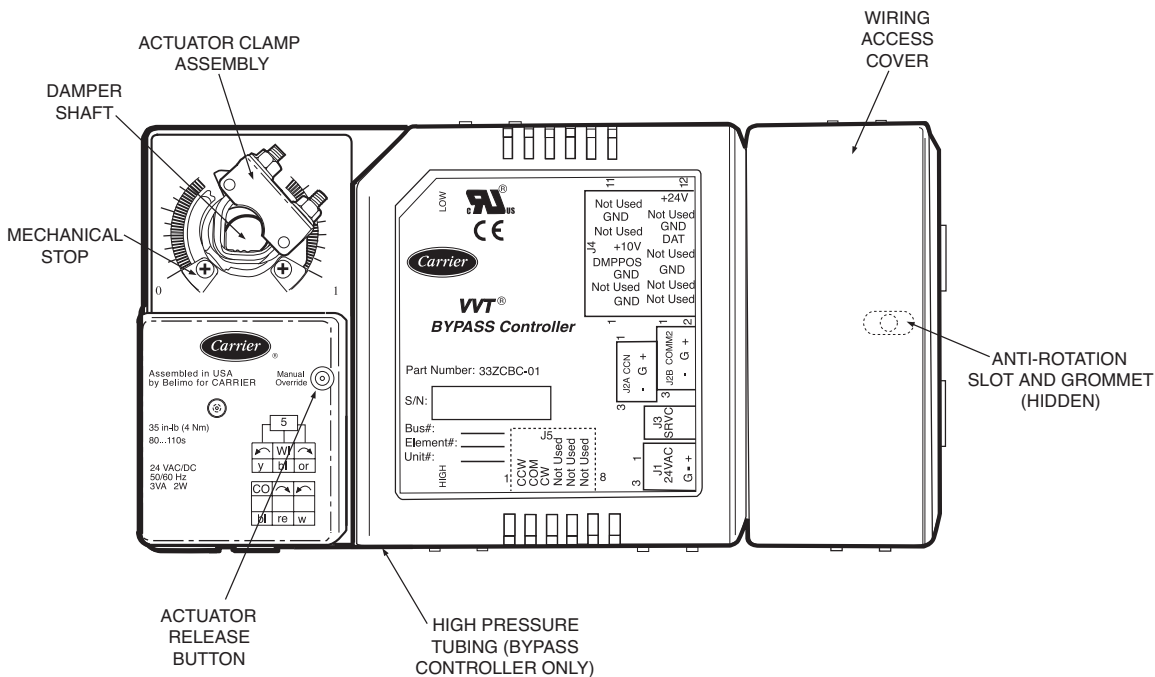

Fig. 2 — Zone Controller/Bypass Controller Details (Bypass Controller Shown)
5. Mount the controller to the terminal by sliding the damper shaft through the actuator clamp assembly. See Fig. 2 for details. Remove the controller wiring access cover. Secure the controller by installing the screw provided through the grommet in the anti-rotation slot. Detach the grommet from the slot so it can slide from side to side. Be sure the floating grommet is in the center of the slot. **FAILURE TO CENTER THE GROMMET MAY CAUSE THE ACTUATOR TO STICK OR BIND.**